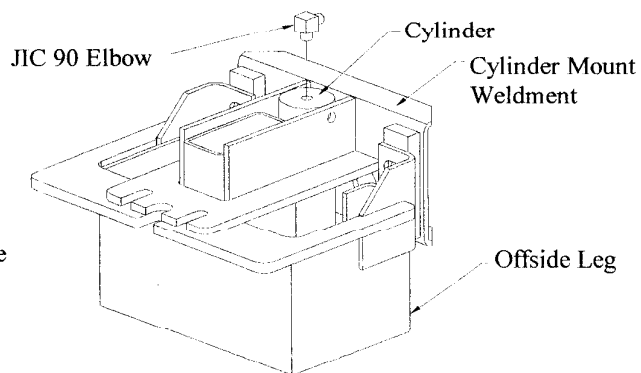

FIGURE 6
10. Attach a male pipe thread to male JIC 90 elbow to top opening of the offside leg cylinder. The elbow should face to the inside of the leg. Figure 6 above.